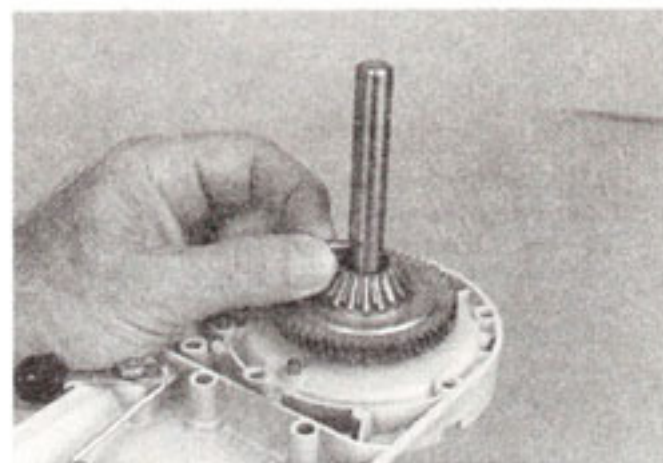
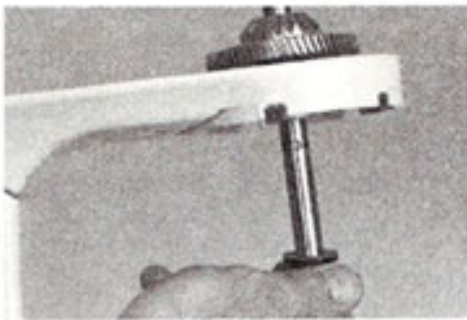
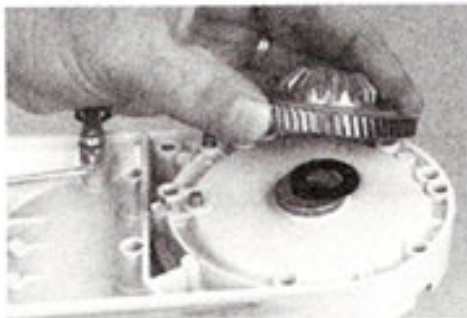

Fig. 54
Fig. 55
Fig. 56
- D. Remove the center gear, bevel gear and vertical center shaft. Push vertical center shaft upward exposing pin (Fig. 54).
Pull out with fingers. Remove shaft from bottom of gear case cover (Fig. 55). Check shaft for bearing wear. Dark gray or indented surfaces indicate shaft should be replaced. Lift gears from case for inspection (Fig. 56).
- G. Place the same washer on lower center bearing. Place the gear assembly on top of center bearing. Insert end of vertical shaft opposite "O" ring into bottom of lower gear case (Fig. 55). Push shaft upward and insert pin (Fig. 54). Center pin in shaft and lower shaft into gear assembly. Turn shaft until pin seats and gears and shaft turn together. Wipe all excess lubricant from bottom of vertical shaft on "O" ring.